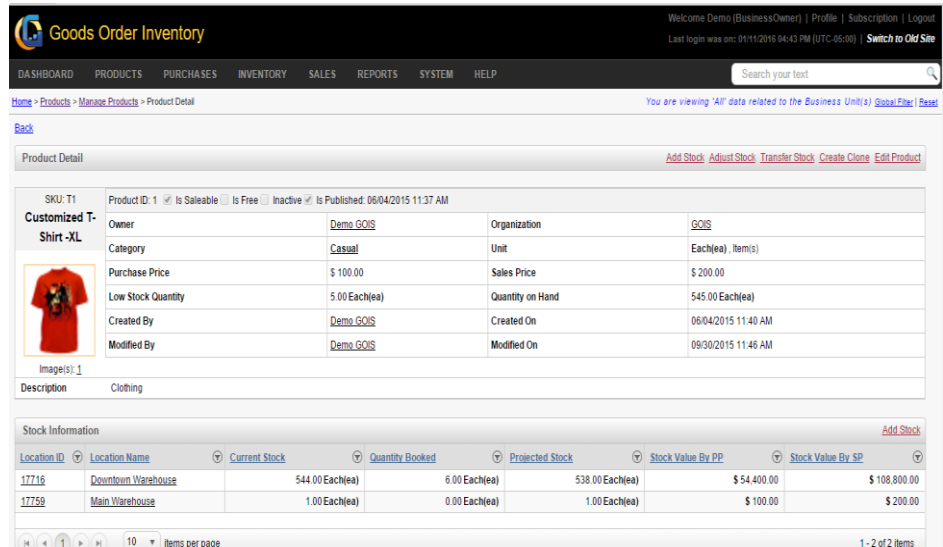

FIGURE 2.1.22
- Click on the “ID” field or on the Specific image of the product and you will be redirected to the “Product Details page” a section of the page is shown in (Figure 2.1.22)